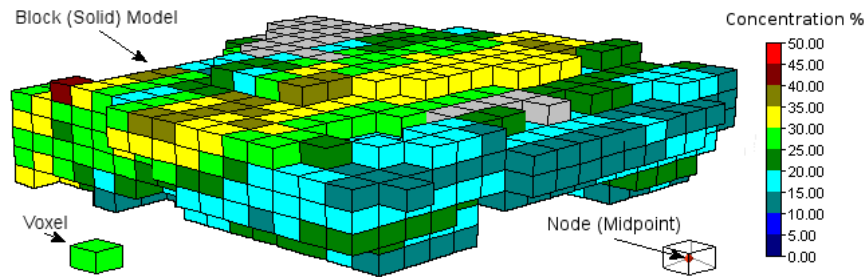

Figure 7. Solid Model Terminology
Solid Model: Data structure used to model data that has three independent variables (X, Y, and Z) and one dependent variable (G). For any given XYZ coordinate there can be only one G value (e.g. 1,4-Dioxane). Examples of data that can be modeled with solids include geochemistry, geophysical data, and ore grades. The three-dimensional cells within a solid are termed “voxels”, and just like grid cells, the center of a voxel is called a “node” (Figure 7). Also referred to a “Block Model” or “Solid.”